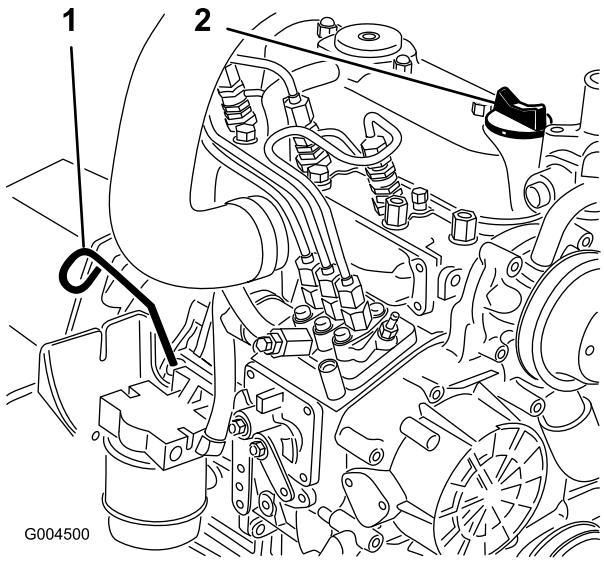

Figure 60
- Remove the dipstick (Figure 60), wipe it clean, and install the dipstick. Remove the dipstick and check the oil level.
3. If the oil level is below the Full mark, remove the fill cap (Figure 60) and add oil until the level reaches the Full mark on the dipstick.